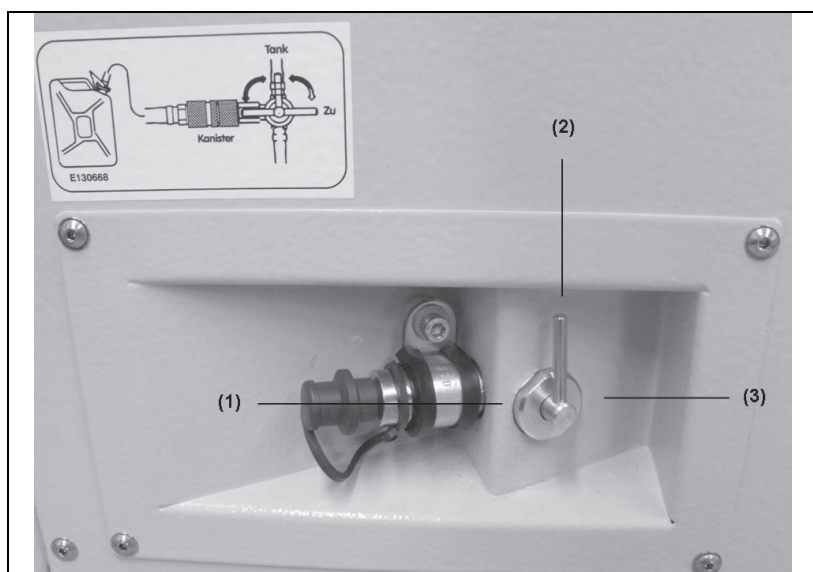

Figure 5-10: 3-way fuel valve
3. Set fuel cock to „own tank“ (*Fig. 5-10-(2)*).
8. Set fuel cock to „external tank“ (*Fig. 5-10-(1)*).